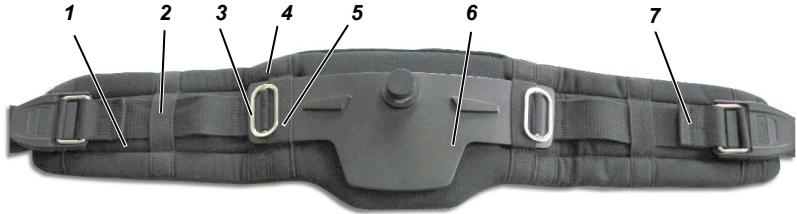

Fig. 31 Hip belt with swivelling plate
In these options a swivelling hip belt plate can be fitted. The hip belt is directly mounted on the swivelling plate as shown in Fig. 31.
- (1) Thread the metal buckles and the belt as shown in Fig. 31 through the **outer** loops in the belt padding.
- (2) Thread the swivelling plate into the two **inner** loops of the belt padding.
- (3) Mount the metal buckles as shown at the swivelling plate.